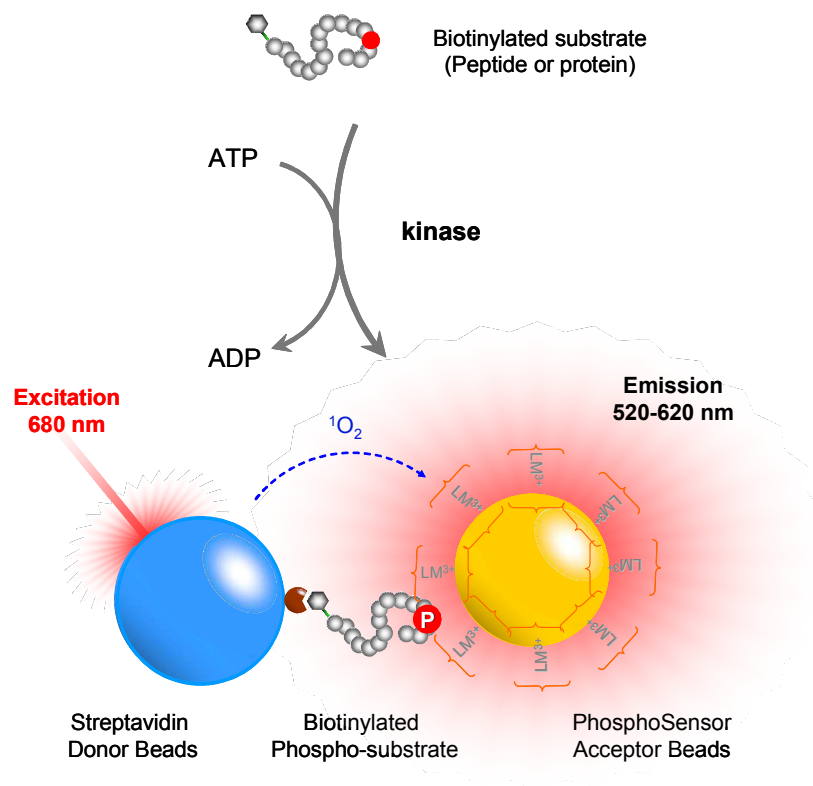

Figure 1. Illustration of the detection of a phosphorylated peptide using the AlphaScreen PhosphoSensor Acceptor beads. Legend: LM^{3+} = Lewis Metal Chelate.
The principle of the assay is illustrated in Figure 1. In this assay, the kinase driven addition of a phosphate group to a biotinylated substrate will result in the simultaneous capture of the phosphorylated substrate by the PhosphoSensor Acceptor (coated with a Lewis Metal Chelate) and the streptavidin (SA) Donor beads. Upon laser excitation of the Donor beads, the proximity of the Donor and PhosphoSensor Acceptor beads will generate an AlphaScreen signal between 520 and 620 nm. In the absence of phosphorylation, no signal should be observed. Since the Acceptor beads allow for the detection of phosphates, the activity of phosphatases can also be monitored using these beads.